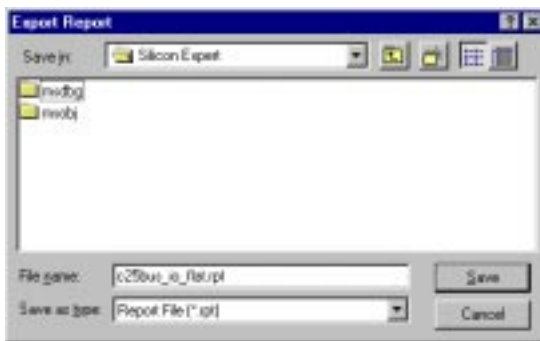

Figure 6-27. Export Report dialog box
1. **Select the Save Report As command from the File Menu.** This invokes the Export Report dialog box, as shown in Figure 6-27. Navigate to a directory, specify a file name, and click Save.